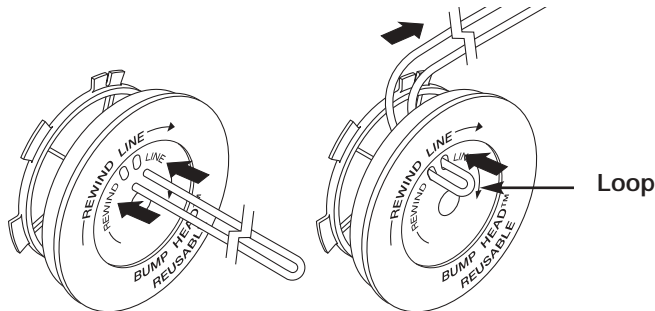

Fig. 31
- Take approximately 25 feet (7.6 m) of new trimming line, loop it into two equal lengths. Insert each end of the line through one of the two holes in the inner reel (Fig. 31). Pull the line through the inner reel so that the loop is as small as possible.